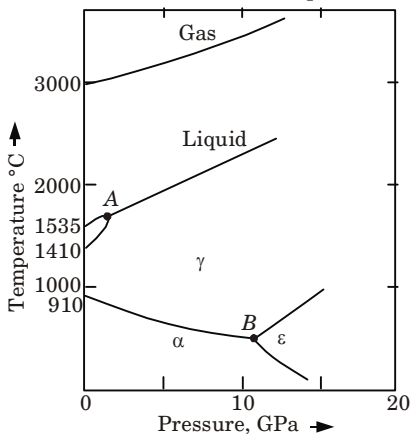

Fig. 3.7.1. Pressure-temperature diagram for the one-component system of iron.
2. The phase diagram for iron is shown in (Fig. 3.7.1). Pressure is plotted on the x -axis and temperature on the y -axis.
5. When two phases are in equilibrium that is either temperature or pressure can be varied independently, but not both, two-phase equilibrium exists along the phase boundaries as shown in (Fig. 3.7.1).
7. Three-phase equilibrium exists at points on the phase diagram, where three phase boundaries meet. Two such points are shown in (Fig. 3.7.1) point (A and B). Such points are called triple points. At this neither pressure nor temperature can be varied arbitrarily.